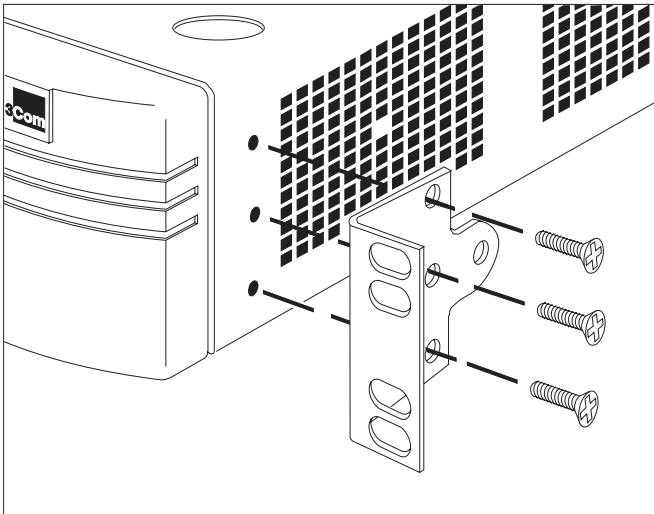

Figure 2-2 Fitting a bracket for rack mounting
- 2 Locate a mounting bracket over the mounting holes on one side of the unit, as shown in Figure 2-2.